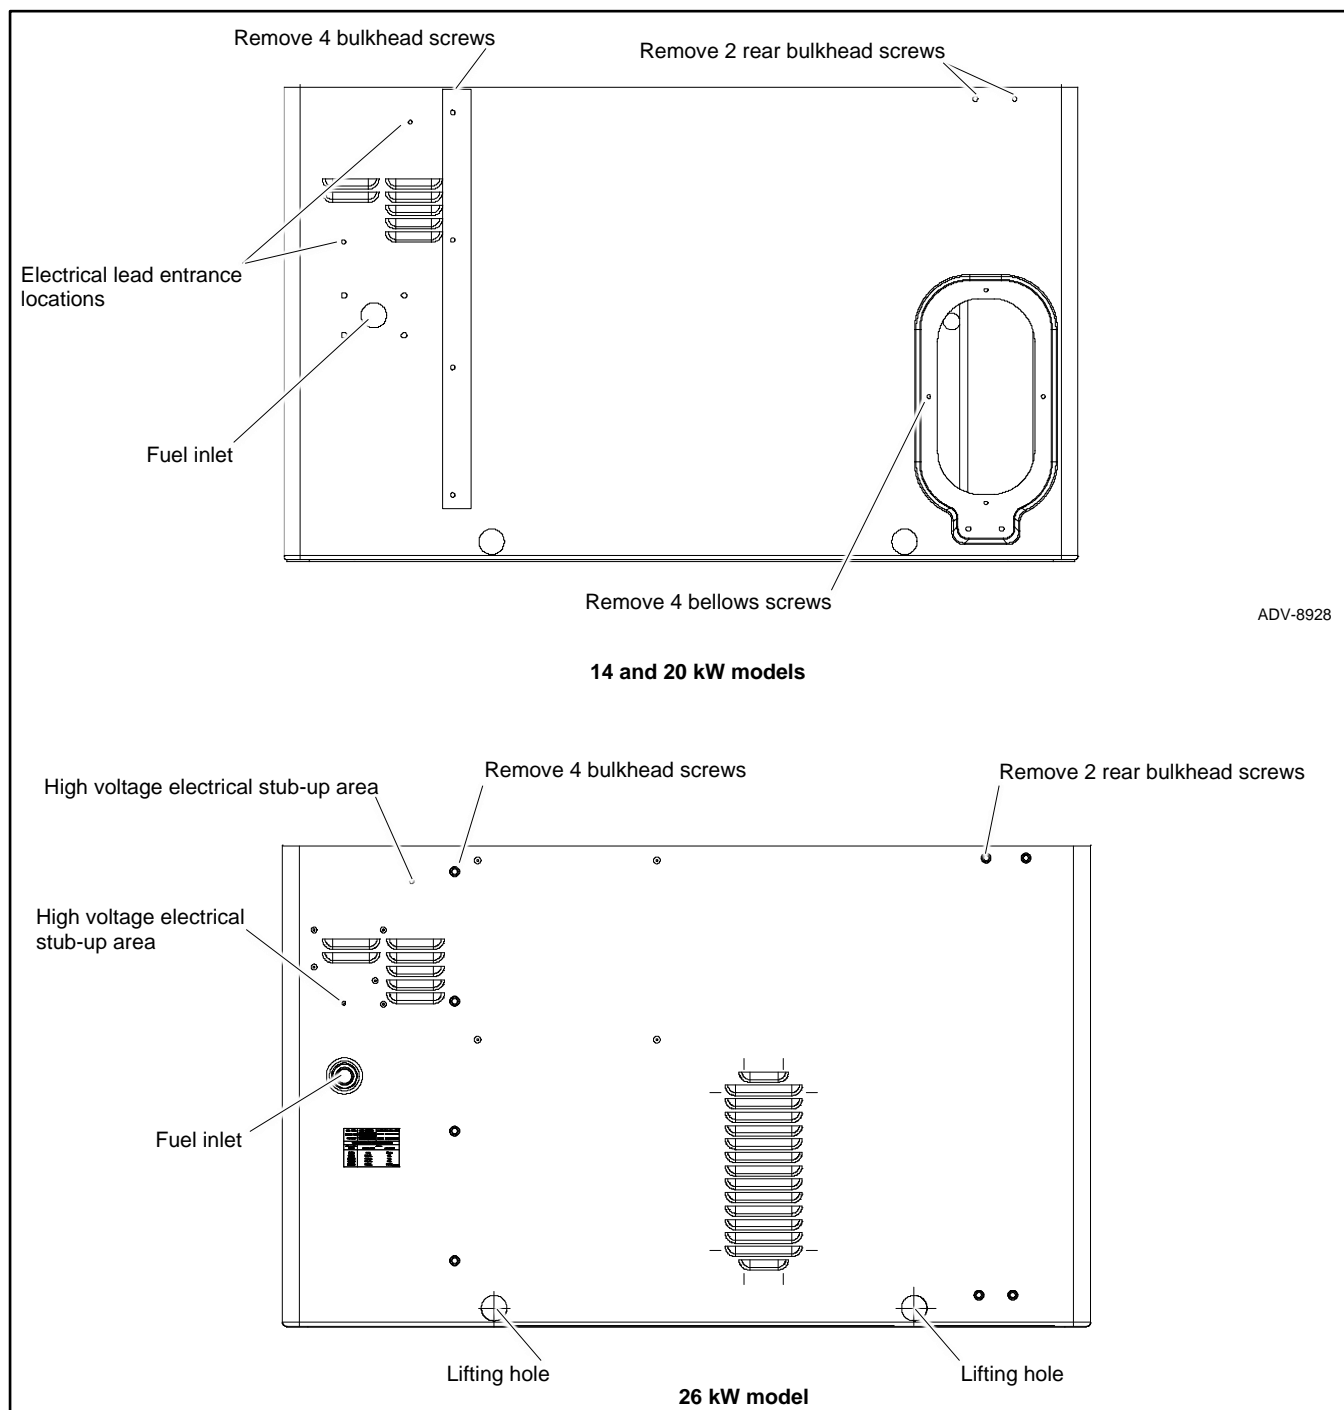

Figure 115 Left Side Panel
14. On the outside of the enclosure, remove four screws that secure the left side panel to the bulkhead. See Figure 115.